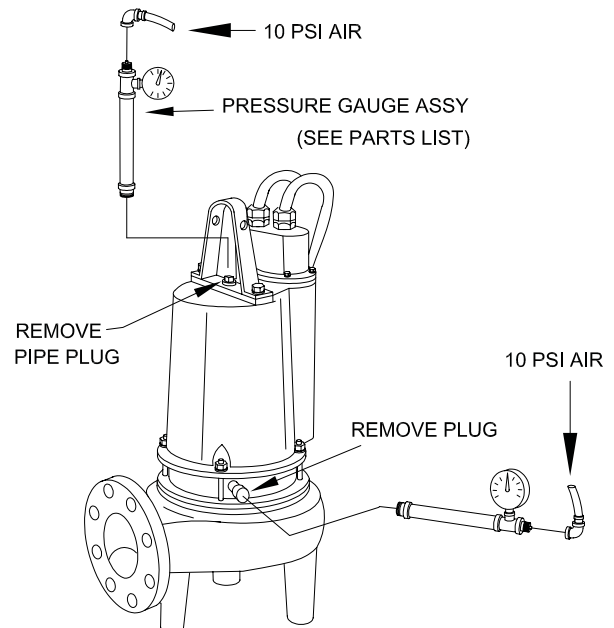

FIGURE 2
Motor Housing - Before checking the pump for leaks around the shaft seal, square rings, and cord inlet, the oil level should be full as described in section F-1.3. Remove pipe plug (5) and lifting handle (7) from motor housing (2). Apply pipe sealant to pressure gauge assembly and tighten into pipe plug hole (see Figure 2). Pressurize motor housing to 10 P.S.I. Use a soap solution around the sealed areas and inspect joints for "air bubbles". If, after five minutes, the pressure is still holding constant, and no "bubbles" are observed, slowly bleed the pressure and remove the gauge assembly. Replace the pipe plug using a sealant. If the pressure does not hold, then the leak must be located.